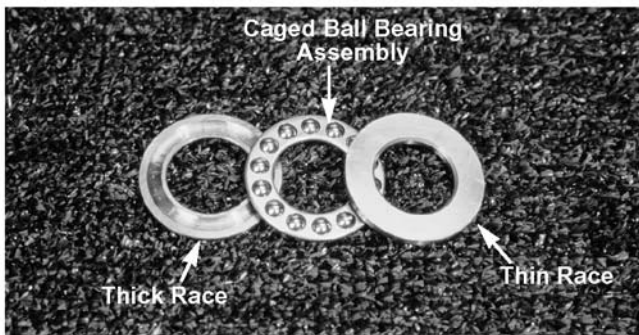

Figure 5-26.
- C. Thin race (never mates to the rotating group). See Figure 5-26.